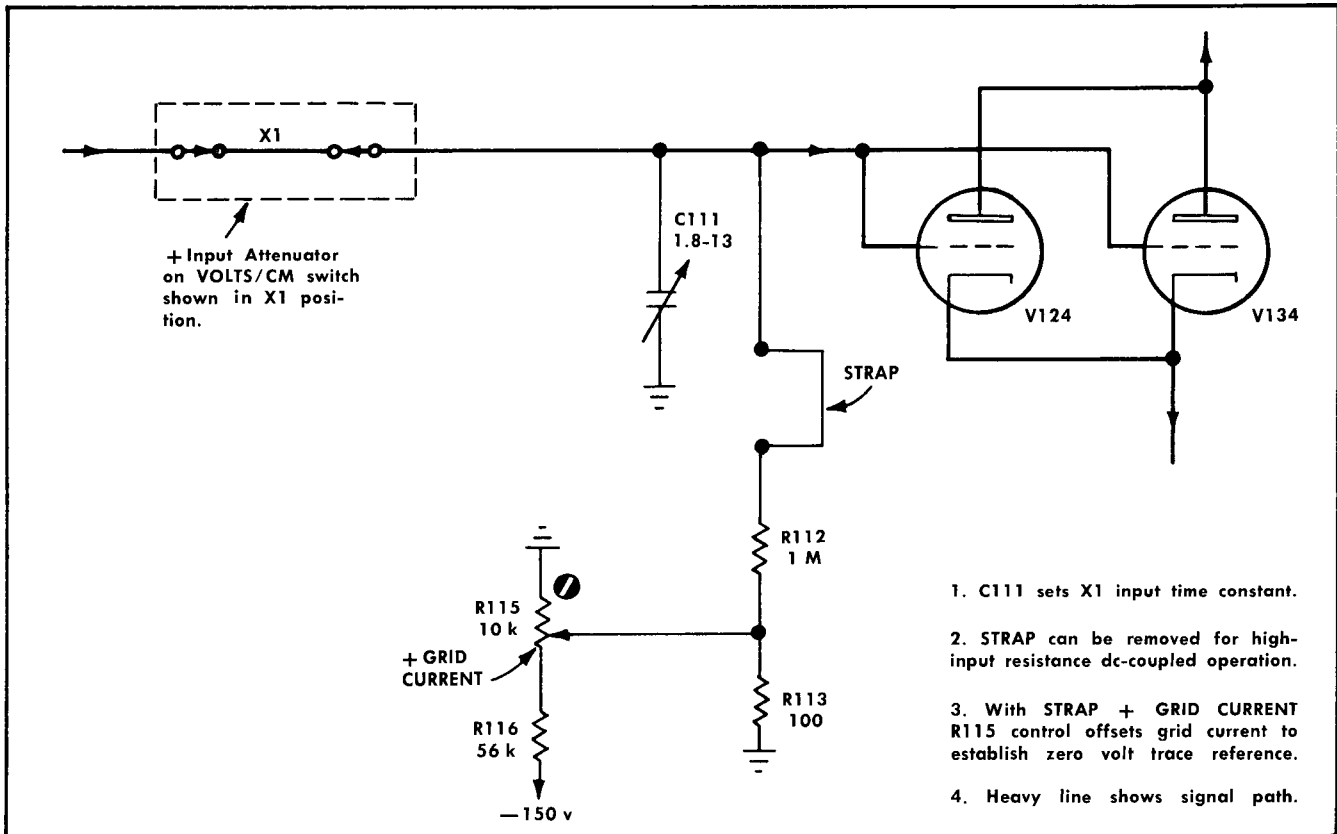

Fig. 3-2. Simplified grid circuit diagram of the +input side in the Input Amplifier stage.
1. The input time constant is established at $47 \mu\text{s}$ ($1 \text{ M}\Omega \times 47 \text{ pF}$) and equalized at all settings of the VOLTS/CM switch for both input connectors. In the +input 1× attenuator position, this is accomplished by adjusting C111 (see Fig. 3-2). Adjustable capacitors C105B, C106B, and C107B (refer to Attenuators diagram) serve the same purpose for the other +input attenuator positions.
For special applications, the strap or wire link connected from the grids of V124-V134 (see Fig. 3-2) to R112 can be removed to provide a substantially higher input resistance